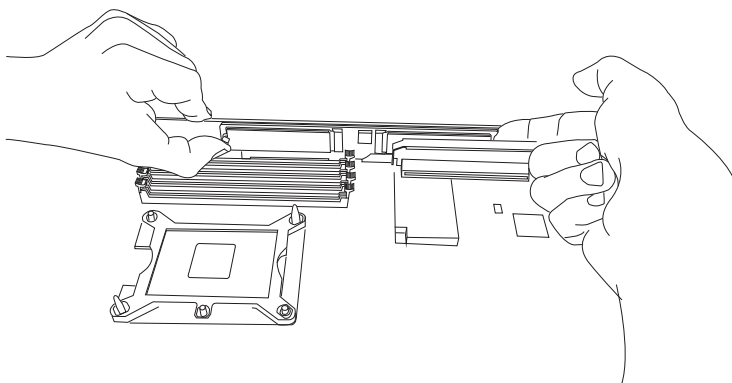

Figure 7. Removing the Carrier Card
3. Remove the two screws from the left side (viewed from the chassis front) of the node chassis that secure the carrier card to the node chassis. (See Figure 7.)